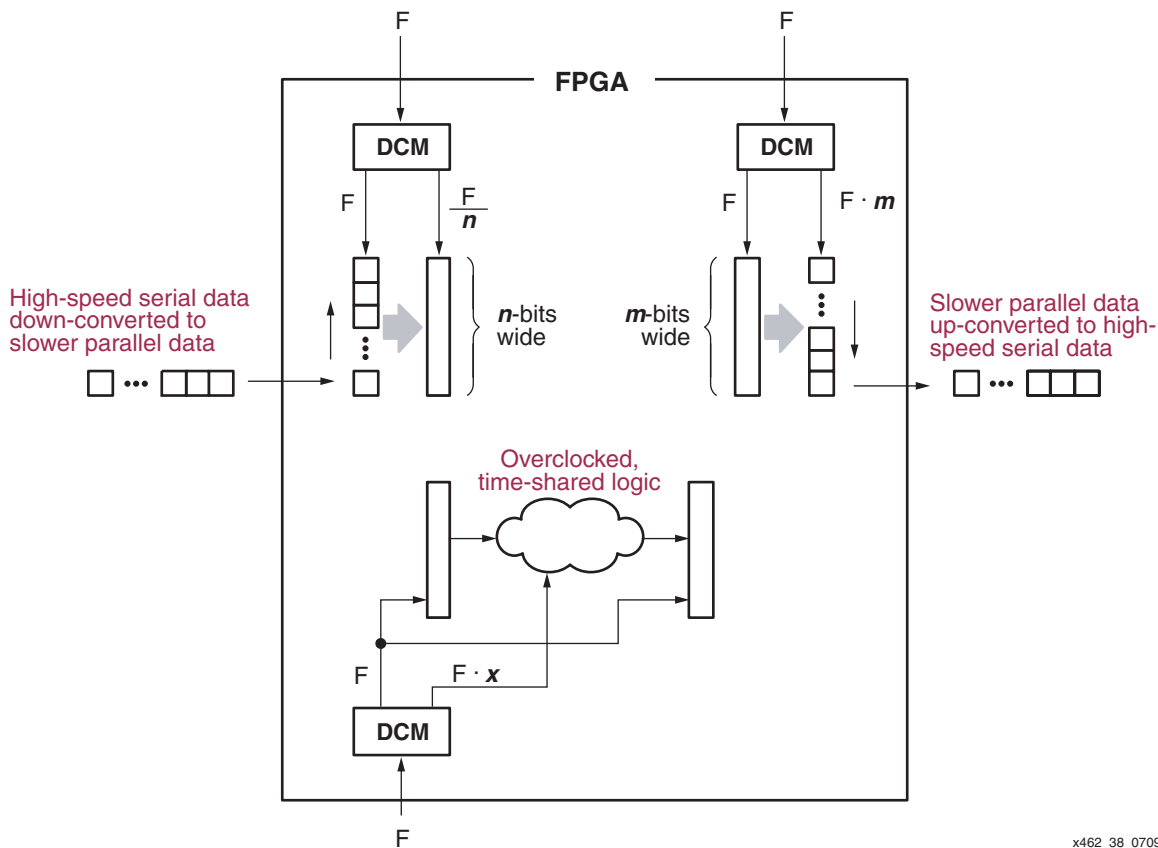

Figure 38: Common Applications of Frequency Synthesis
- Dividing a high-speed serial data clock to process data in parallel within the FPGA, as shown in Figure 38.
- Multiplying a parallel data clock before converting to a high-speed serial data format, also shown in Figure 38.